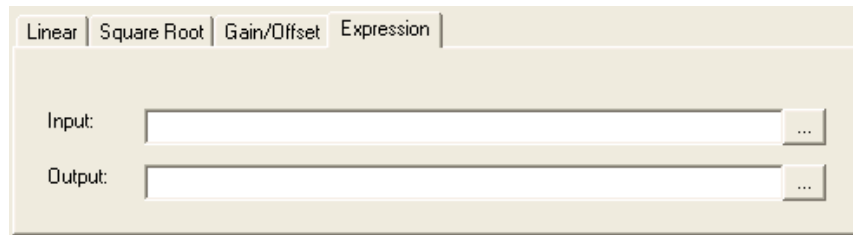

Figure 58 - Expression Tab
5. Select the **Expression** tab (Figure 58).